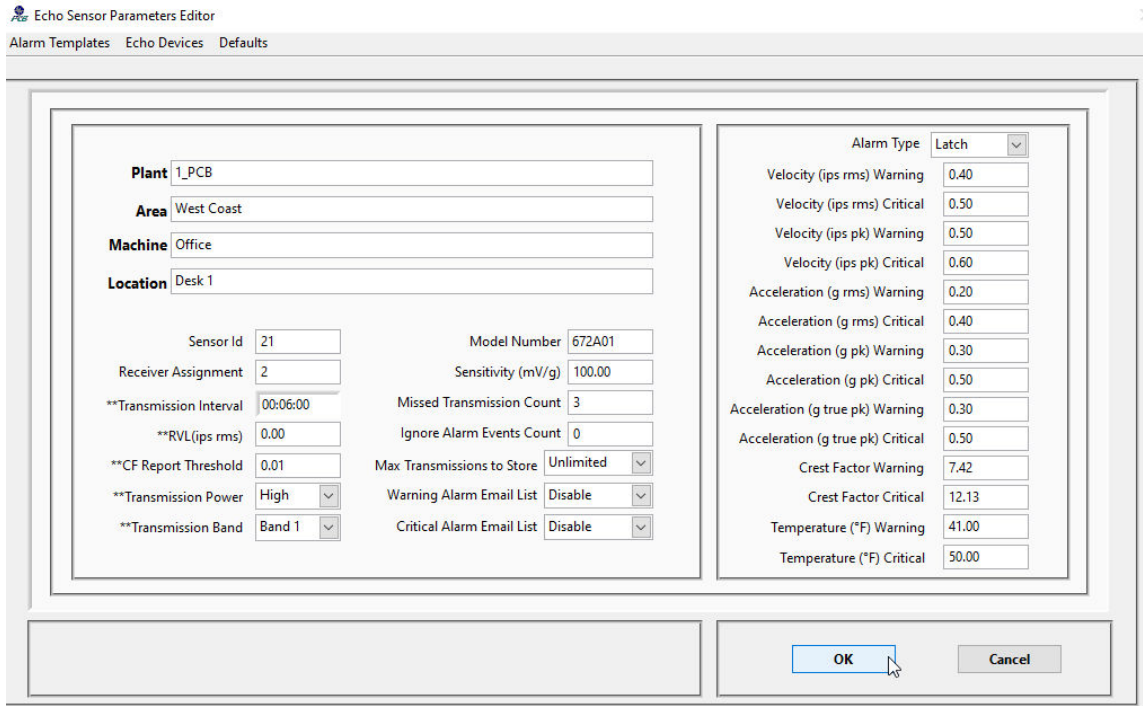
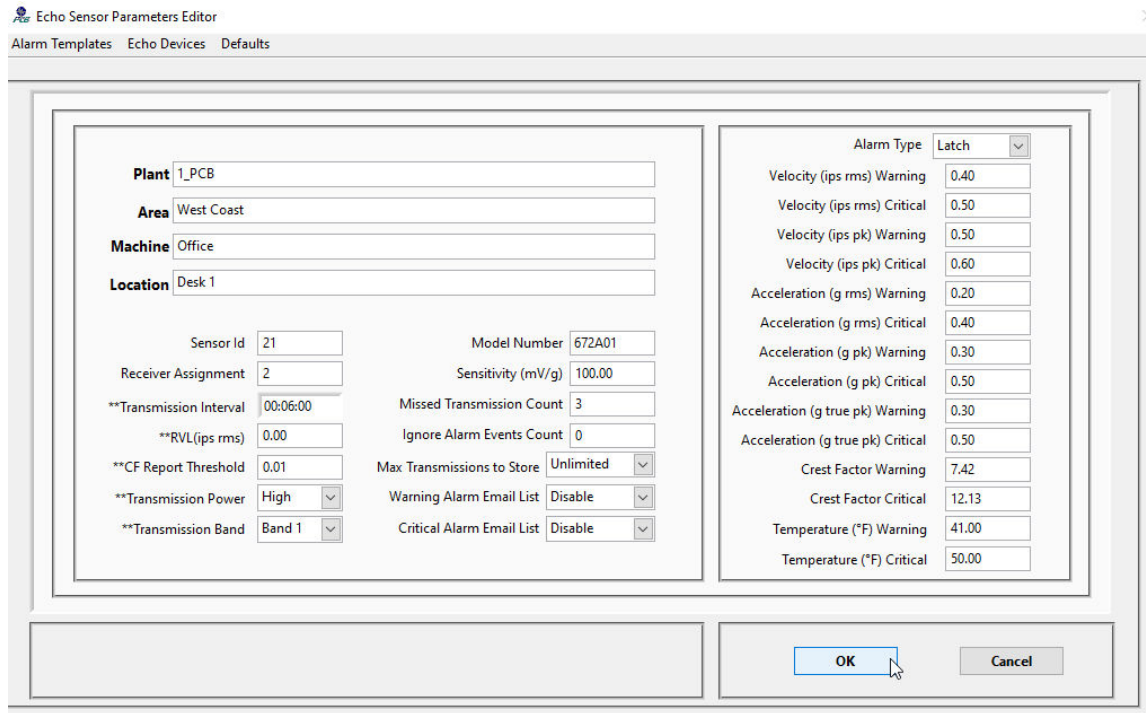

Figure 36 – 670A01 Echo[®] Sensor Parameter Editor Screen
Figure 40 – Echo[®] Sensor Parameter Editor
- View or Edit the sensors parameters (Figure 40). (Editing them requires the user to be logged in Administration | Login...)
Clicking OK on the dialog box will display the Echo® Sensor Parameter Editor screen shown in Figure 36 or Figure 40. If the Sensor Id is less than 32768 then the sensor is a standalone 670A01 Echo® sensor. In this case the single channel dialog is displayed.